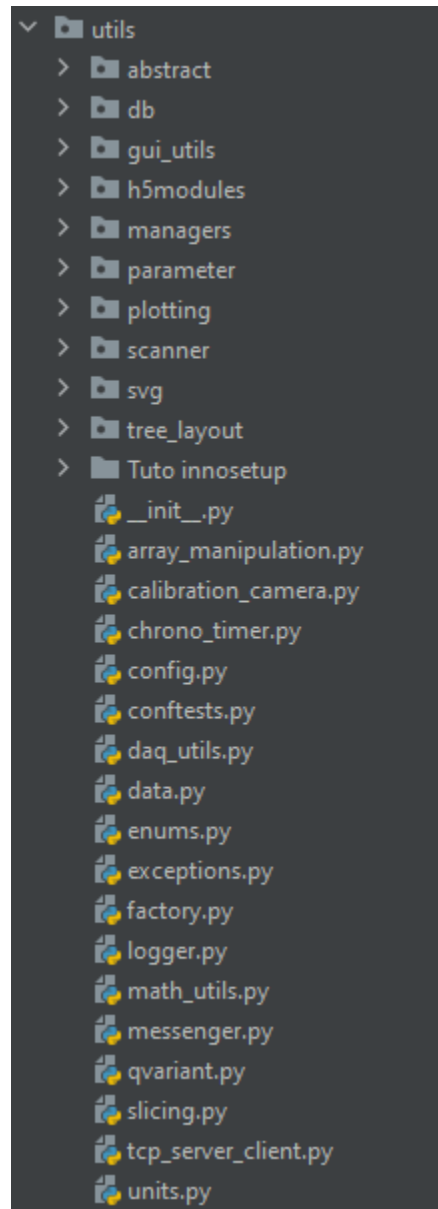

Fig. 7.4: Layout of the `utils` module
- Utils module: contains all utility modules, see Fig. 7.4.